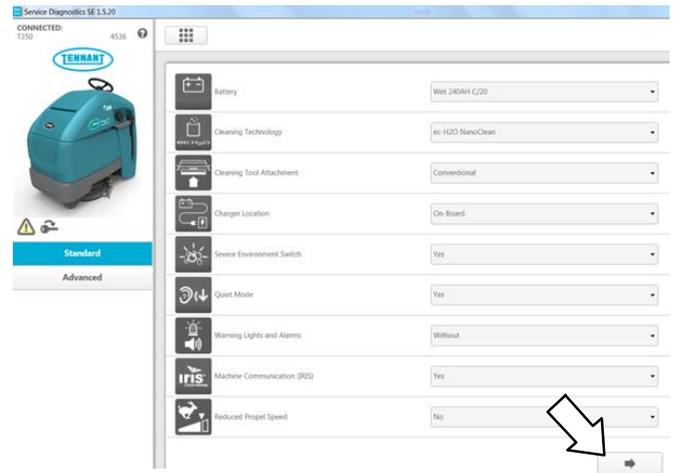

Fig. 7
7. Carefully configure the machine by selecting the installed options (Figure 7). This may require visually inspecting the machine for installed options. After selections are made, press the arrow button to start the programming process for the new control board.